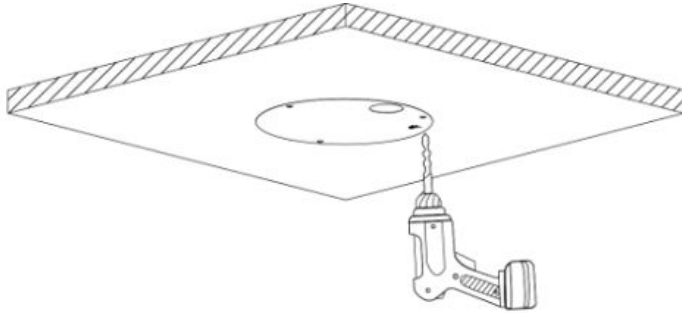

Figure 2-1
Step 1 Use the included position map and place it on the mounting surface. After rotating the position map accordingly, drill the mounting and cable exit holes in accordance to the map. See Figure 2-1.